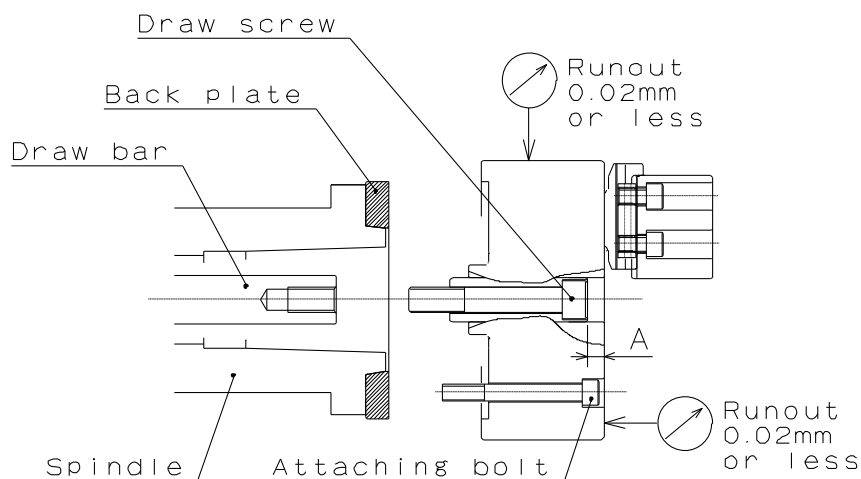

Fig.21
- The appropriate position of the wedge plunger at the cylinder forward end is the position when the dimension A in Fig.21 becomes as shown in the table below.